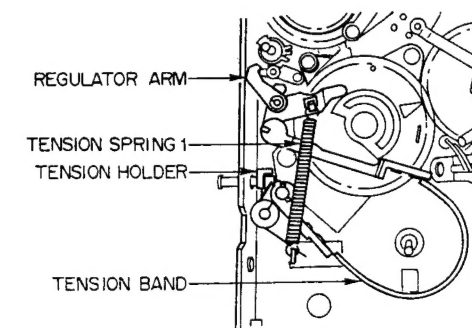

Fig. 3-37
3. Play back the TORQUE METER CASSETTE TAPE (AJ-719917) for more than 10 seconds then confirm that the reading on the meter is 15 ± 3 g-cm. If the reading is not satisfactory, replace the TENSION SPRING 1 (refer to Fig. 3-37).